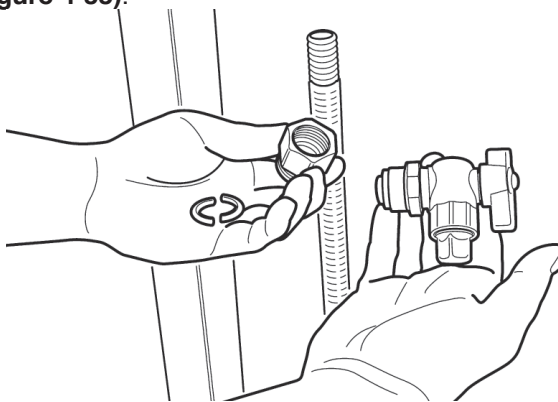

Figure: 4-33
3. Disassemble the nut and split rings from the valve (Figure 4-33).